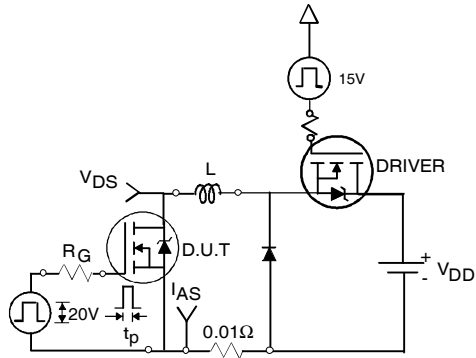

Fig 12a. Unclamped Inductive Test Circuit
| I_{AR} | Avalanche Current① | See Fig.12a, 12b, 15, 16 | A |
3. Equation below based on circuit and waveforms shown in Figures 12a, 12b.
- Limited by T_{Jmax} , see Fig.12a, 12b, 15, 16 for typical repetitive avalanche performance.